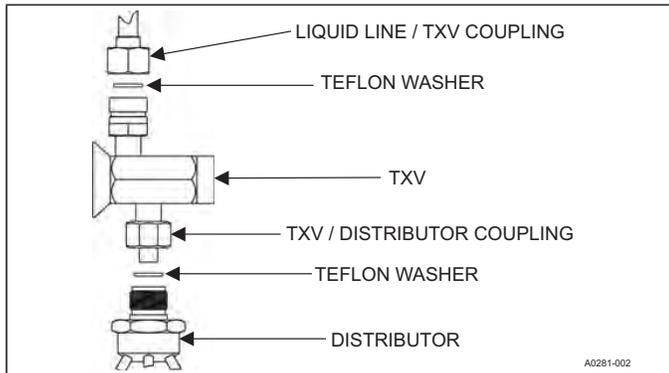

FIGURE 11: TXV Installation
4. Install the thermal expansion valve to the distributor assembly with supplied fittings. Ensure Teflon washer is seated in distributor. Hand tighten and turn an additional 1/4 turn to seal. **Do not over-tighten fittings.** See Figure 11.